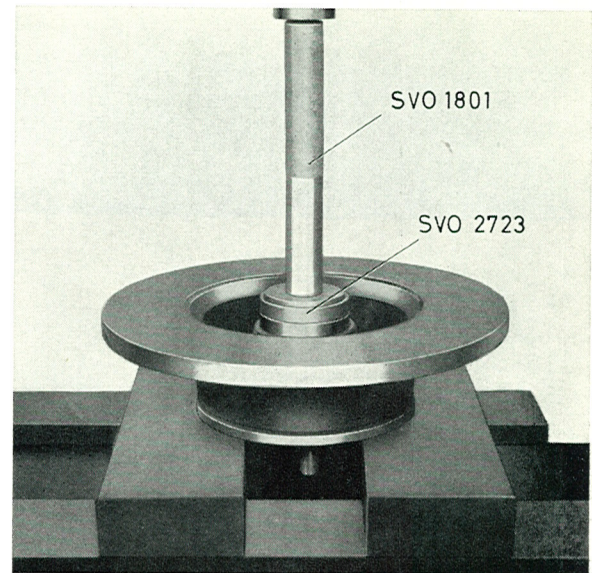

Fig. 7-21. Fitting the seal
8. Grease the bearing with the help of a pressure greaser. If there is not one available, pack the bearings by hand with as much thick grease as there is room for between the roller retainer and inner ring of the bearing. Also apply grease to the outer sides of the bearings and on the outer rings pressed into the hub. The recess in the hub is filled with grease all round up to the smallest diameter of the outer ring of the outer bearing, see Fig. 7-21.
- Use a high-class bearing grease for the bearing. Place the inner bearing in position in the hub. Press in the seal with drift SVO 2723 and standard handle SVO 1801, see Fig. 7-21.